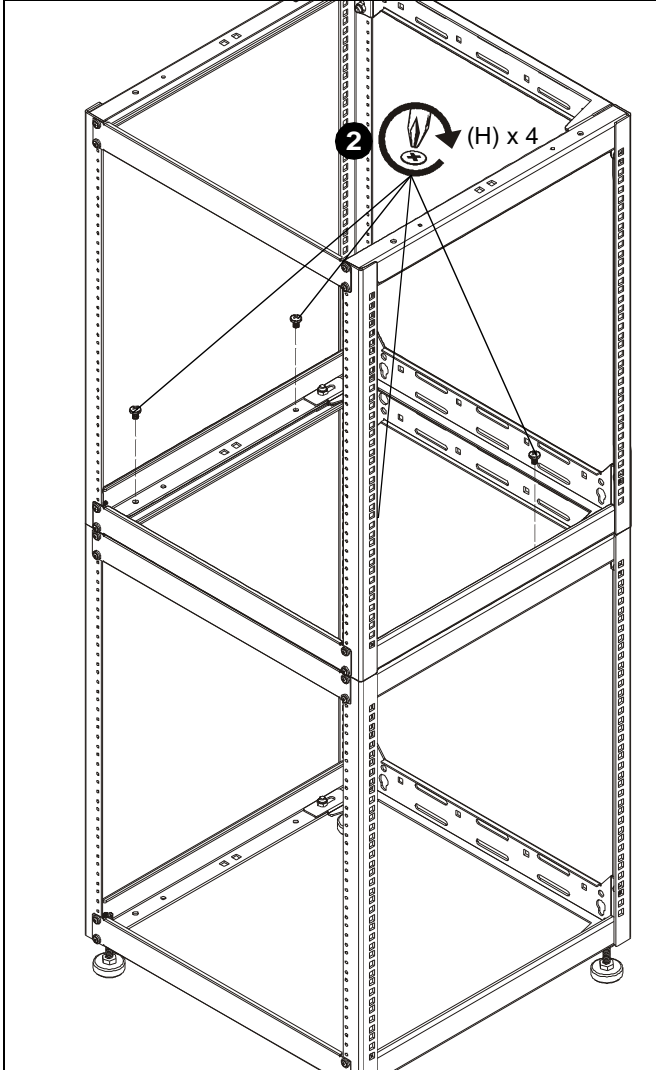

Figure 9
2. Use four 1/4-20 x 3/8" Phillips screws (H) to secure second rack to first rack. (See Figure 9)